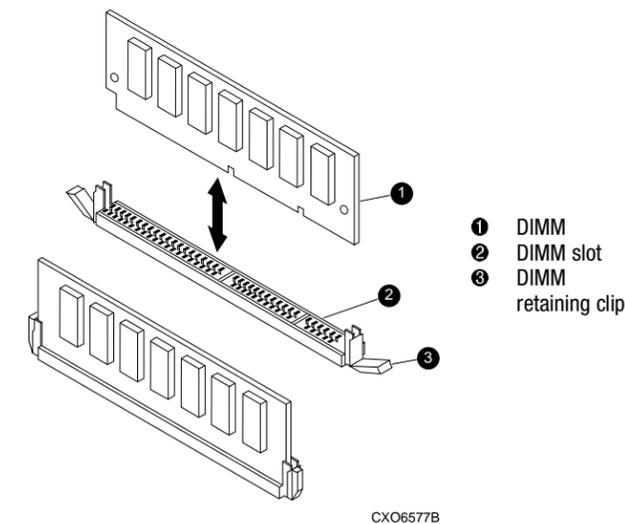

Figure 4. Removing or installing a DIMM
10. Press down on the DIMM retaining clips (see Figure 4, ③) at both ends of the DIMM ① being removed.
1. Insert each DIMM (see Figure 4, ①) straight into the appropriate slot ② of the cache module, ensuring that the notches in the DIMM align with the tabs in the slot.
3. Engage the two retaining clips ③ for the DIMM.
- Press down on the DIMM retaining clips (see Figure 4, ) at both ends of the DIMM  being removed.
- Insert each DIMM (see Figure 4, ) straight into the appropriate slot  of the cache module, ensuring that the notches in the DIMM align with the tabs in the slot.